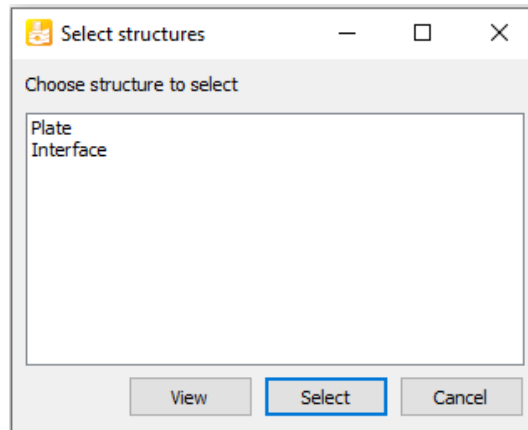

Figure 77: Select structures window
1. To select the lining of all the tunnel sections, click the corresponding button  in the side toolbar and drag the mouse to define a rectangle where all the tunnel sections are included. Select the **Plate** option in the appearing window as shown in Figure 77 (on page 101):